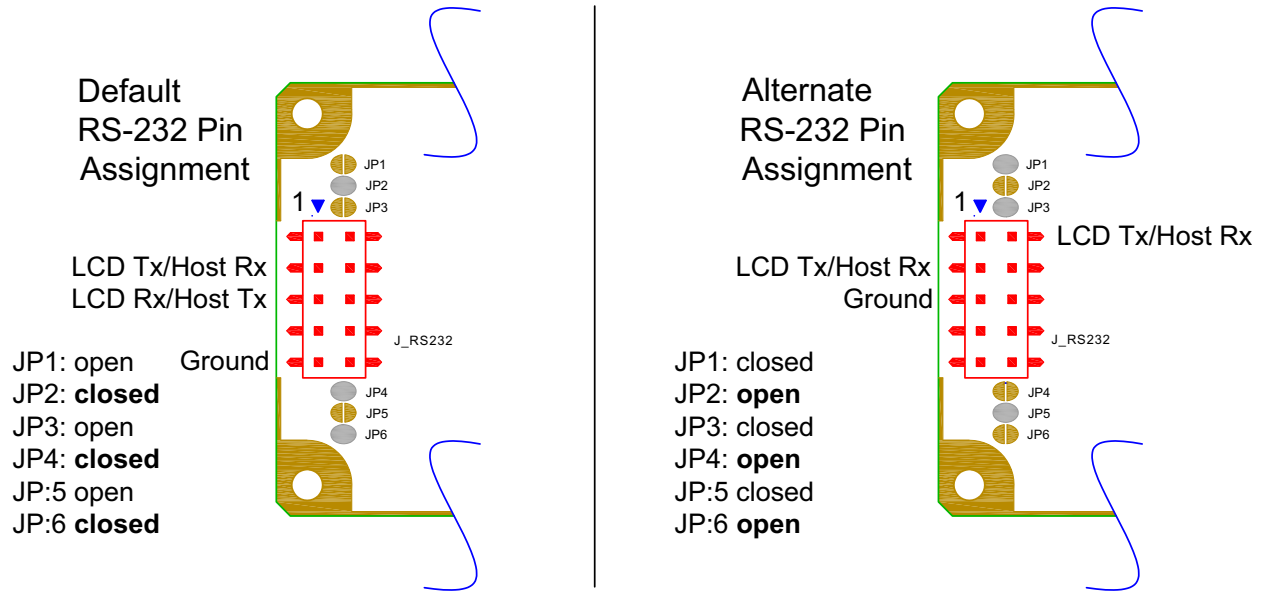

Figure 16. J\_RS232 Default and Alternate Pin Assignments
3. If the “Default RS-232 Pin Assignments” (see Figure 16. on Pg. 30) are selected, the five connections needed to operate the display module are all on a single column of pins on J\_RS232. You can connect a single 0.1-inch spacing 5-conductor cable to connect between the CFA533-TMI-KS and your host.
JP2, JP4, and JP6 are closed at the factory, selecting the "Default RS-232 Pin Assignments" (see Figure 16. on Pg. 30). This connection allows a low-cost ribbon cable (CrystalFontz WR-232-Y08) to connect the CFA533-TMI-KS to a host's DB-9 COM port.